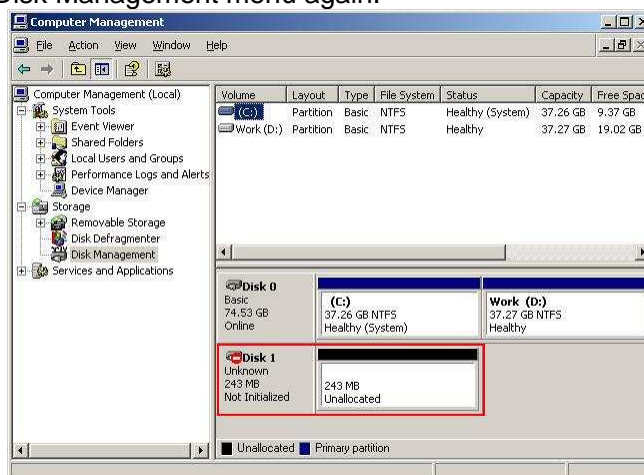

Figure7 Disk is not intialized
- (Note) If no pop-up menu is displayed and disk not initial is displayed instead, as shown in Figure7. Please try to close and reopen Disk Management menu again.